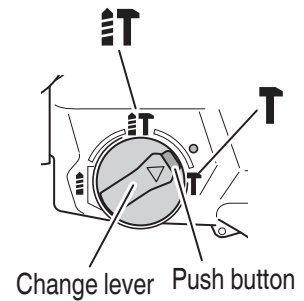

Fig. 20
- (1) Mount the bull point or cold chisel.
- (2) Press the push button and set the change lever to middle of **⚡T** mark and **T** mark (Fig. 20).